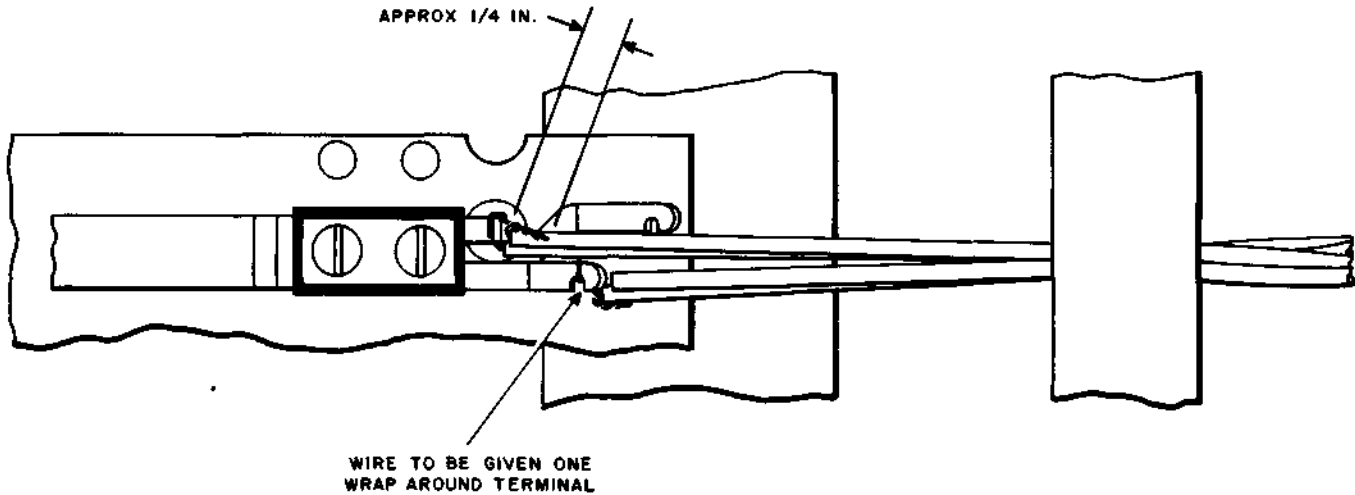

Fig. 14—Temporary Cross-Connections on Protectors
12.01 When making transfers or rearrangements, it is often necessary to make use of temporary (back-tap) cross-connections. Fig. 14 through 19 shown the methods for terminating these cross-connections on terminals arranged for soldered connections. The word "temporary" as used herein refers in each case to the jumper which is to be removed when the permanent arrangement is completed.
12.04 Leave a short tail of wire on the permanent jumper at the terminal. Connect the temporary jumper to this tail of wire by twisting the two wires together. Solder the twisted wires and cut off the excess, leaving approximately 1/4 inch of the wires. Then bend the wires back along the jumper wire to avoid snagging. (See Fig. 14.)